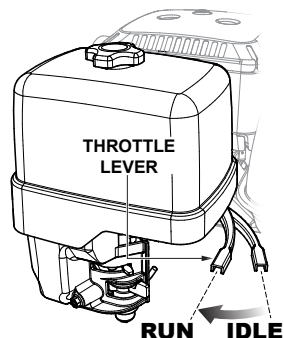

Figure 17. Throttle Lever (Run)
9. To begin pumping, place the throttle lever (See Figure 17) in the **RUN** position. If water is not flowing out of the discharge port, turn off the engine and check for and clear any obstructions within the suction hose.